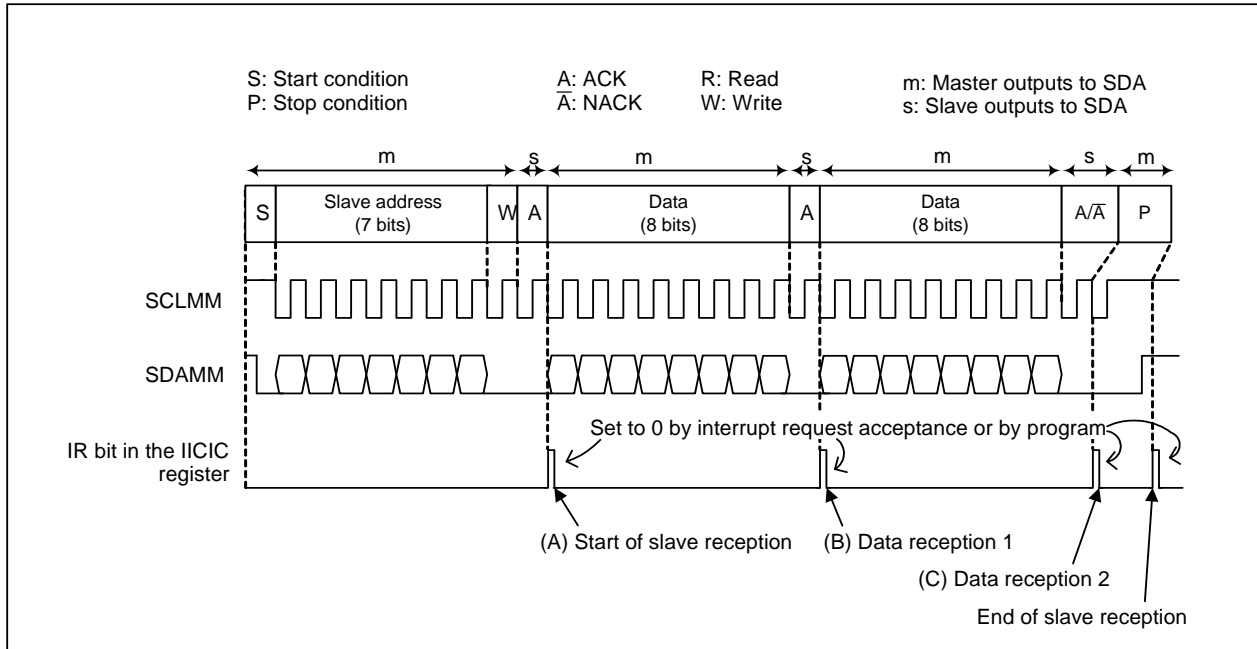

Figure 25.19 Example of Slave Reception
- (1) Read the received data from the S00 register
- (2) Write C0h to the S10 register. (Stop condition standby state)
- (3) Write a dummy data to the S00 register (stop condition generated)
The slave reception is described in this section. The initial settings described in 25.3.10.1 "Initial Setting" are assumed to be completed. Figure 25.19 shows the example of slave reception. The following programs (A) to (C) are executed at the (A) to (C) in Figure 25.19, respectively.